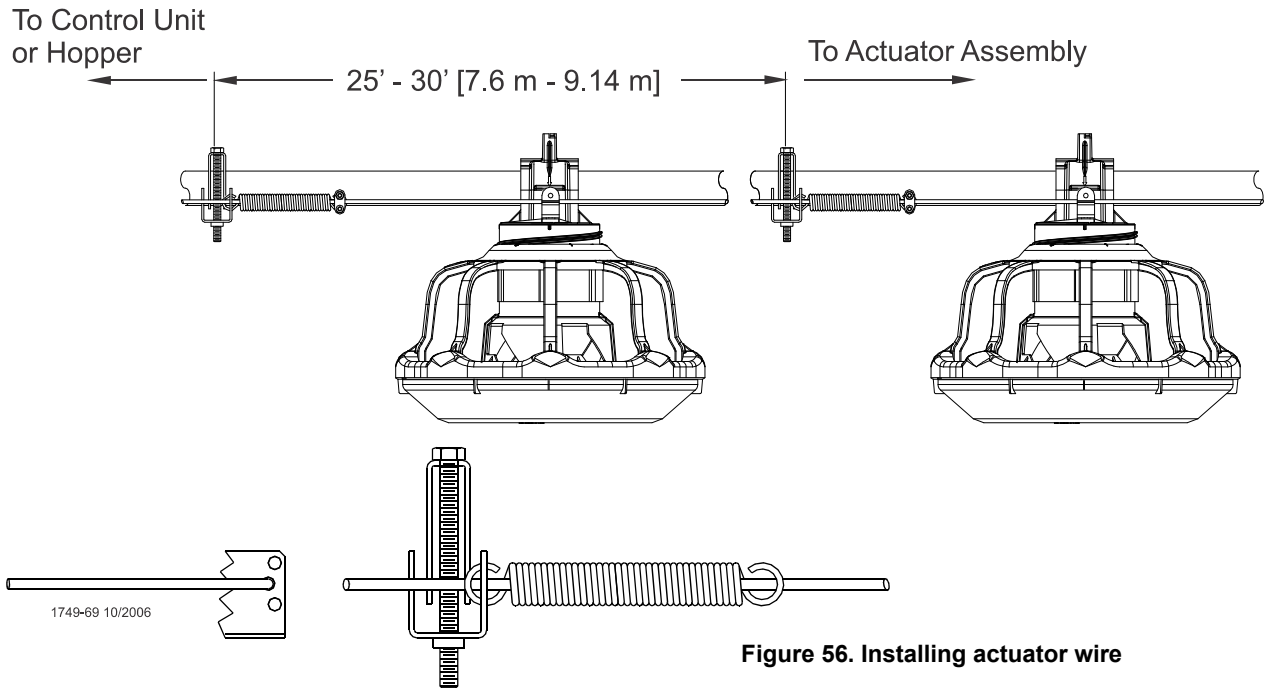

Figure 56. Installing actuator wire
1. Beginning at the terminal spring bracket or if a pusher pan is used start at that spring bracket. Slide the end of the actuator wire through the two holes in the bracket and through the center of the end spring, **see figure 56**